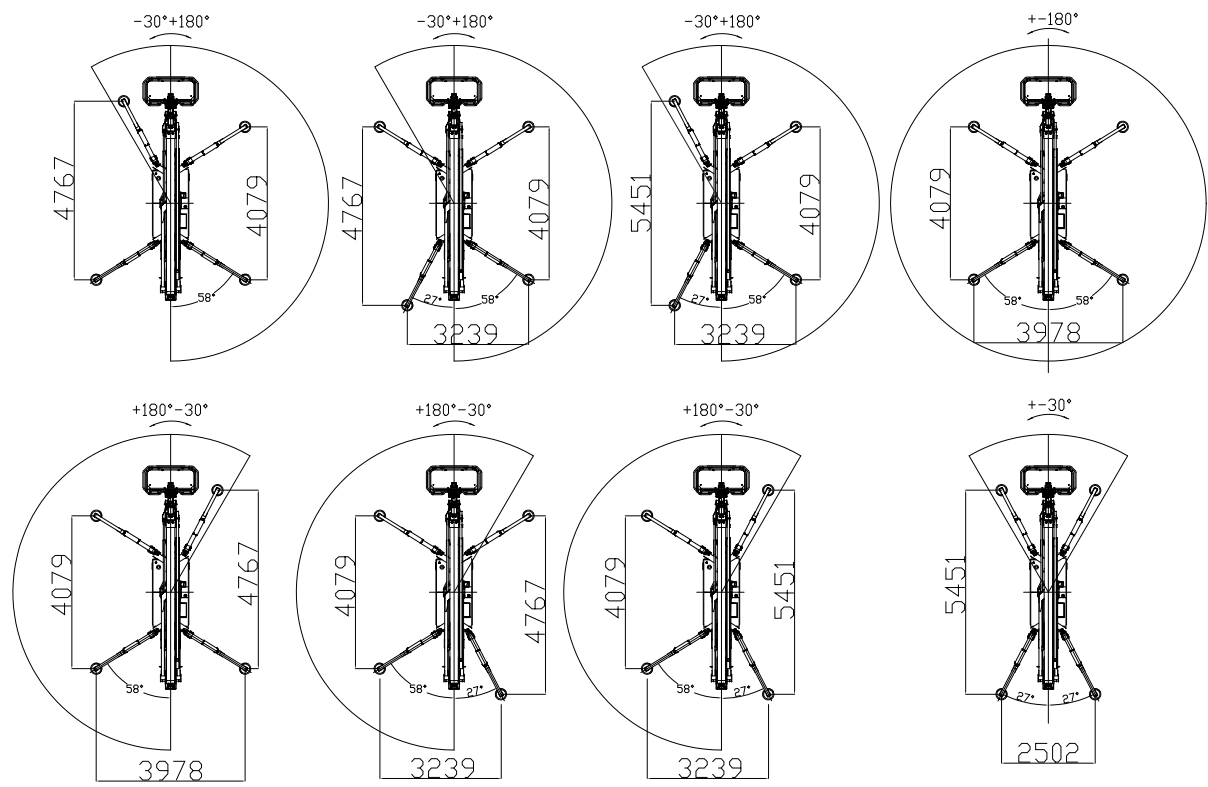

Figure 4-4. Boom Area of Operation for Various Outrigger Positions (Sheet 1 of 2)
(See Figure 4-4. and Figure 4-5.)
The following illustrations (*Figure 4-4. and Figure 4-5.*) show the various areas of allowable boom rotation and jib extend operation for the different outrigger settings.
Unless all four (4) outriggers are set to "full work area position," jib extend is restricted to the $\pm 30^\circ$ rotation area shown in (*Figure 4-4. and Figure 4-5.*).